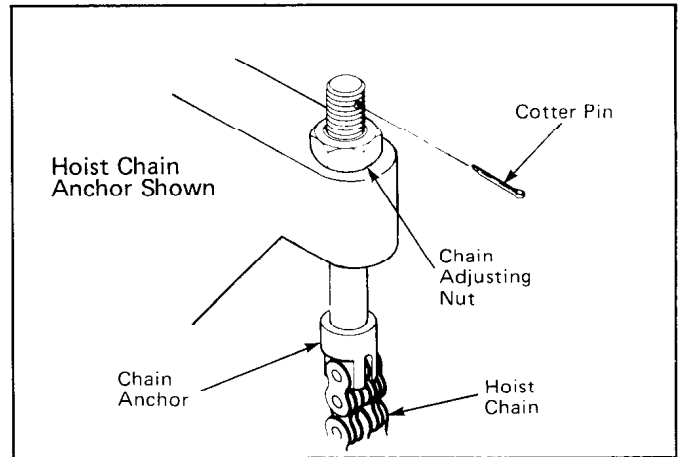

Figure 5. Chain Anchor.
1. Remove the cotter pins from the threaded chain anchors, located on the inner upright crossmember directly behind the cylinder. See Figure 5.
1. Raise the carriage to expose the threaded hoist chain anchors located on the front side of the inner upright crossmember on each side of the cylinder. Remove the cotter pins from the chain anchors. See Figure 5.